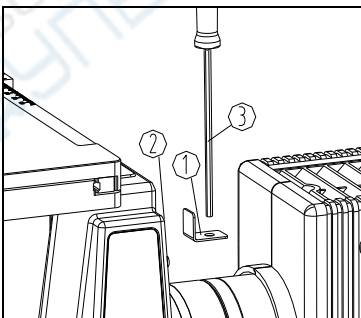

Fig. 13
(1) Absorb the spanner holder on microscope stand②. (Fig. 13)
(2) Put the spanner③ on the holder①.